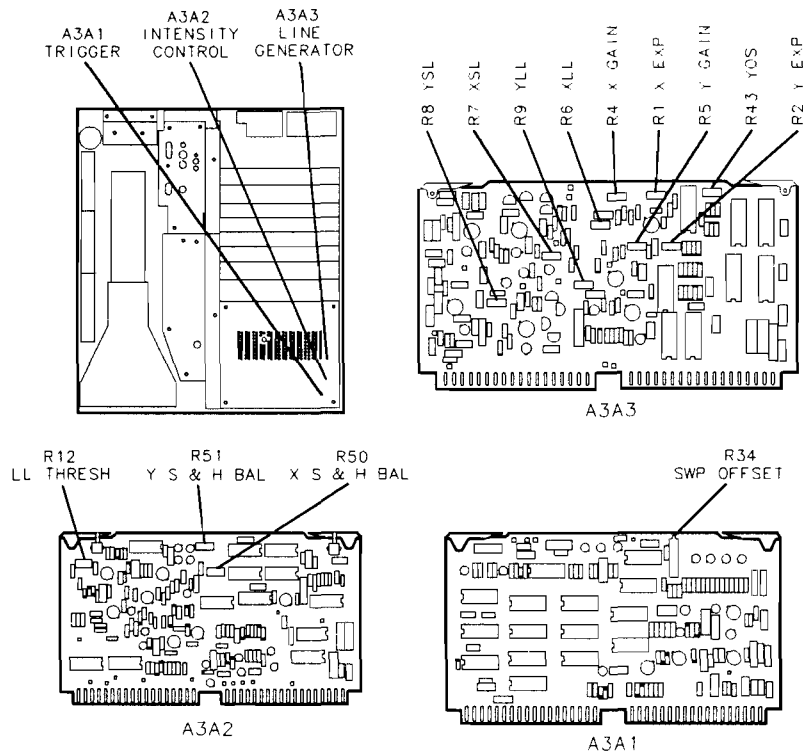
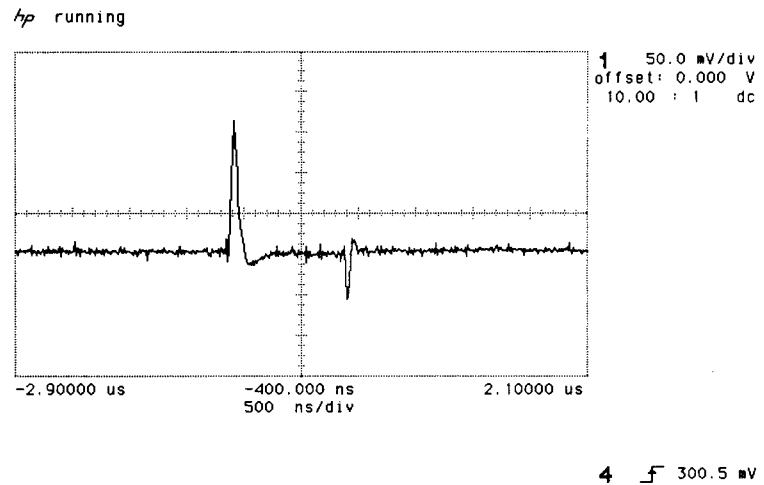
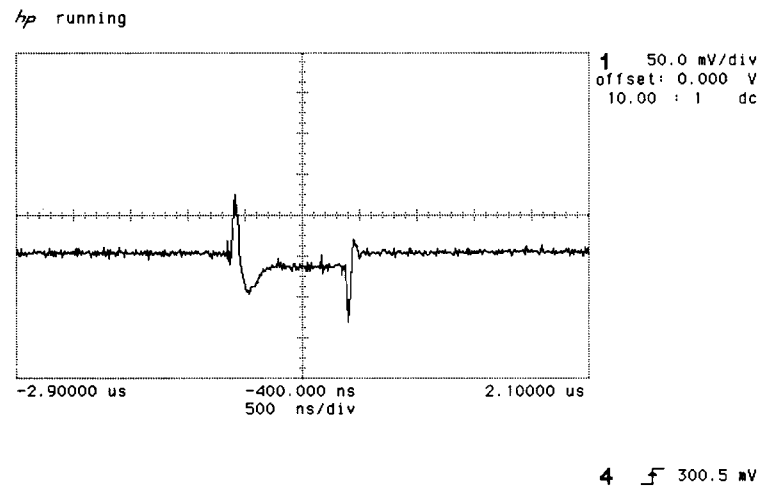

Figure 3-105.
Figure 3-106. Sample and Hold Balance Adjustment Waveforms
Figure 3-107. Waveform Before Adjustment
4. Adjust A3A3R4 X GAIN and A3A3R5 Y GAIN to place graticule information completely on CRT. See Figure 3-105 for location of adjustment.
5. Adjust A3A2R12 LL THRESH fully clockwise. See Figure 3-105 for location of adjustment.
6. Adjust A3A3R6 XLL so that horizontal graticule lines just meet the vertical graticule lines at the left and right sides of the graticule. See Figure 3-105 for location of adjustment.
7. Adjust A3A3R9 YLL so that vertical graticule lines just meet the horizontal graticule lines at the top and bottom of the graticule. See Figure 3-105 for location of adjustment.
18. Adjust A3A2R50 X S&H BAL for minimum dc offset between the level of the signal inside the two pulses to the signal level outside the two pulses. Figure 3-106 shows a properly adjusted waveform. Figure 3-107 shows the waveform before adjustment. Refer to Figure 3-105 for location of adjustment.
28. Adjust A3A1R34 SWP OFFSET so that the signal trace begins at the left edge graticule line. Refer to Figure 3-105 for location of adjustment.
29. Adjust A3A3R4 X GAIN for twenty cycles displayed on the CRT graticule. This may be made easier by adjusting A3A1R34 SWP OFFSET so that the first peak is centered on the left edge graticule line, then adjusting A3A3R4 X GAIN for two cycles per division with the twenty-first cycle being centered on the right edge graticule line. A3A1R34 SWP OFFSET must then be readjusted so that the trace begins at the left edge graticule line. See Figure 3-105. for location of adjustment.